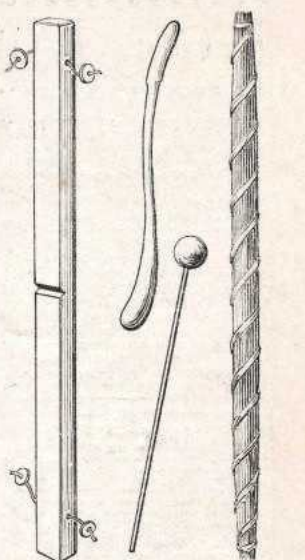
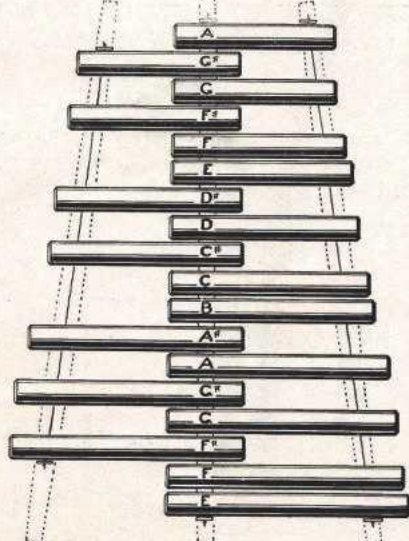

FIG. 2.—THE KEY. FIG. 3.—BEATERS. FIG. 4.—THE REST.
FIG. 1.—A HOME-MADE XYLOPHONE.
A xylophone can be made any size. The one illustrated at Fig. 1 stretches an octave and a half, from E to A, accidentals being included. It may easily, however, be made of two octaves, C to C, by the addition of four longer bars below and three shorter ones above.
The keys are usually made of walnut, but maple or ordinary yellow pine of good quality gives a mellow tone. The bars (Fig. 2) are planed smooth to about 1½ ins. wide by ¾ in. thick, the upper side being slightly rounded. For a xylophone
Take the bottom bar (in this case E), shape it and cut it to approximately 12 ins. in length. Test the note with a piano or other instrument. The tone is improved by cutting a V-groove across the underside, as in Fig. 2. This groove, when cut in the underside, makes the note slightly flatter. For the second bar (F) cut the wood ¼ in. shorter and test it. If not high enough, take a paring off; if too high, cut a groove in the back (shallow or deeper as required) until the note is the correct pitch. It is customary to first cut the bars so that they are a little sharp, then to flatten the tone by means of the groove in the underside.
Fitting.—When the bars are finished they are laid, not as in Fig. 1, but side by side in a row and in their correct scale order. The bars representing accidentals are meanwhile placed rounded side downwards. Holes are then bored from side to side through all the bars, care being taken that the same drill bit is used throughout.
The accidentals (F sharp, G sharp, etc.) are then turned over (as Fig. 1) and the bars joined by threading three lengths of fine catgut through the holes. A number of small wooden washers (see Fig. 2) should be prepared. A washer is placed at
Straw Rests.—Fig. 1 shows the correct position of the instrument for playing, the dotted lines indicating the three flexible straw rests on which it stands. Without these rests the tone of the xylophone will be dead and ineffective. The rests (Fig. 4) may be from 24 ins. to 27 ins. in length, and are made by winding straws tightly together and tying them with tape. The rests may be about an inch in diameter.
The keys may be lettered E, F, G, etc., as indicated in Fig. 1, and when not in use the "accidental" bars may be turned round so that the instrument is made compact for placing in a shallow cardboard box. (127)